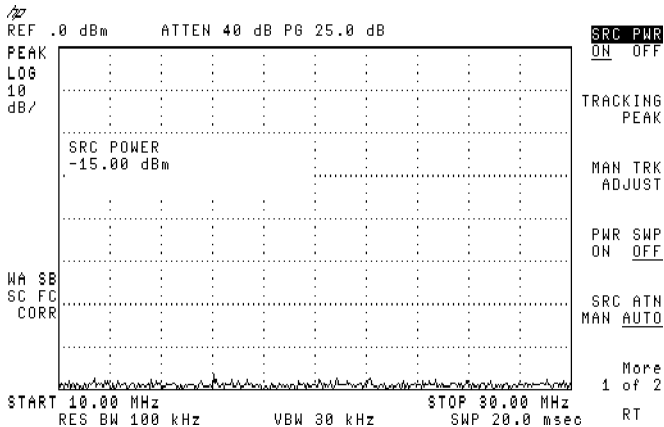

Figure 3-14. Turning On the Tracking Generator (HP 8591E)
10. Press 15 and **[dBm]**. The tracking generator is now turned on. Notice that the **SCR PWR** softkey has toggled to ON. See Figure 3-14.